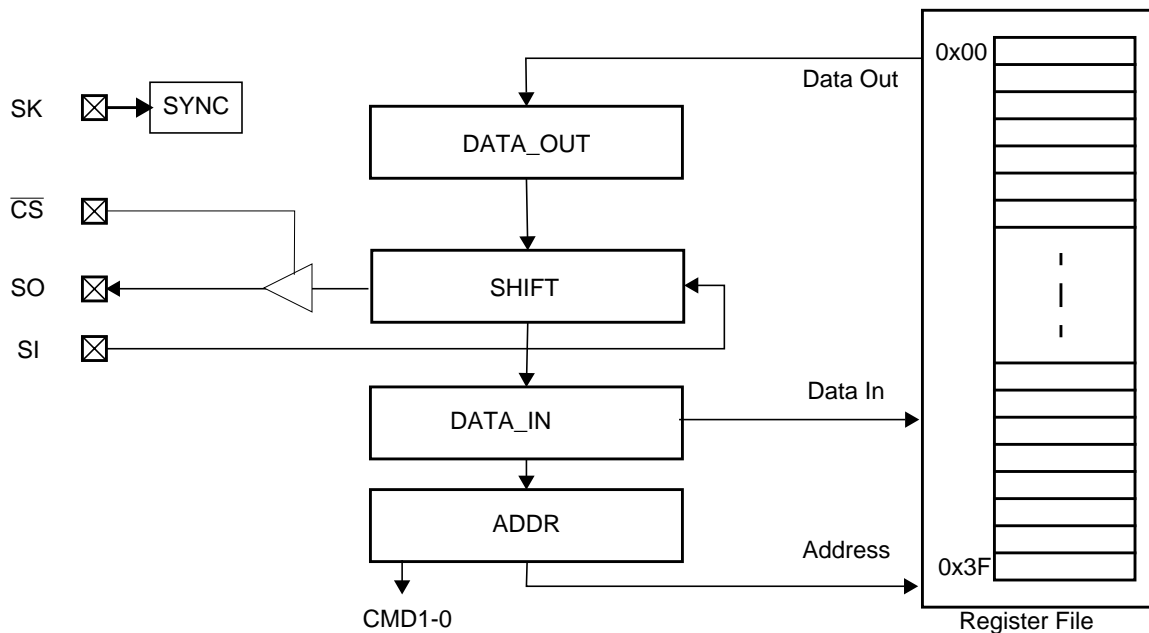

Figure 14. MICROWIRE/PLUS Interface Block Diagram
The MICROWIRE/PLUS interface allows the device to function as a CPU or microcontroller peripheral via a serial interface. This mode is selected by pulling the MODE1 pin high and the MODE0 pin low. The MICROWIRE/PLUS mode uses the chip select ( $\overline{CS}$ ), serial clock (SK), serial data in (SI) and serial data out (SO) pins, as shown in Figure 14.